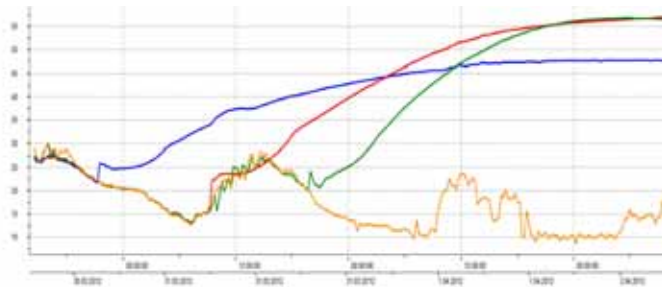
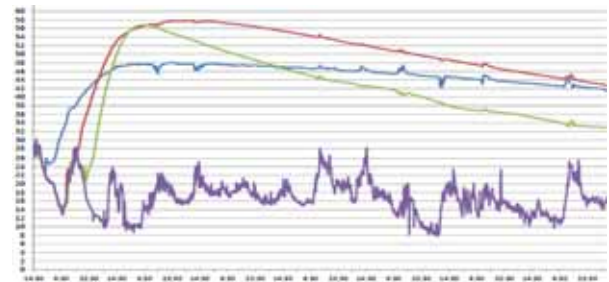

Figure 3 — Concrete temperatures recorded during the first 2 days at different depths at the geometric center of the rectangular foundation.
Figure 4 — Concrete temperatures recorded during the first 14 days at different depths at the geometric center of the rectangular foundation.
Most significant results from thermocouples mounted along the vertical alignments located in the center of the placement have been reported in Figures 3 and 4 respectively. Graph in Figure 3 shows the temperature profiles recorded during the first two days after the concrete placement. In
Figure 4 graph is extended up to 13 days after the pour accomplishment. Analysis of the temperature profiles suggest, in both cases, the following considerations:
- Orange line in Figure 3 and purple line in Figure 4 represent the environmental temperature profile.